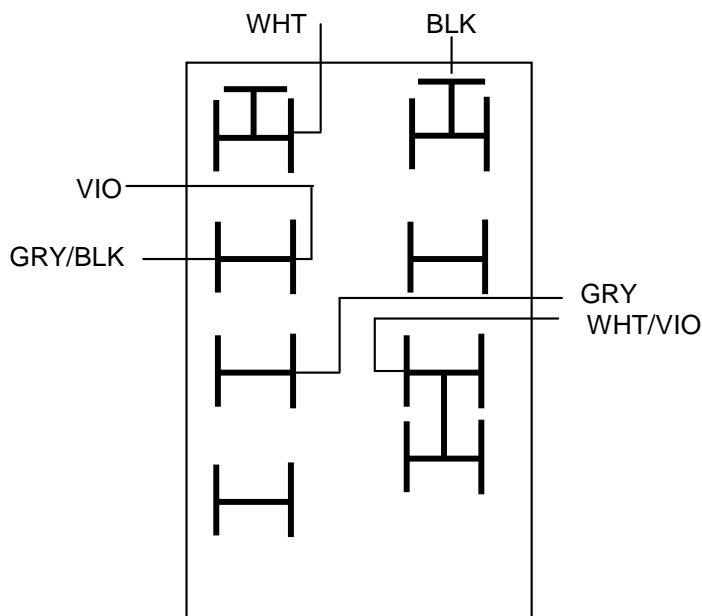

Fig. 8 Wired for 220VAC Operation
- Step 1: Wire transformer terminal for 220V operation as shown in Figure 8